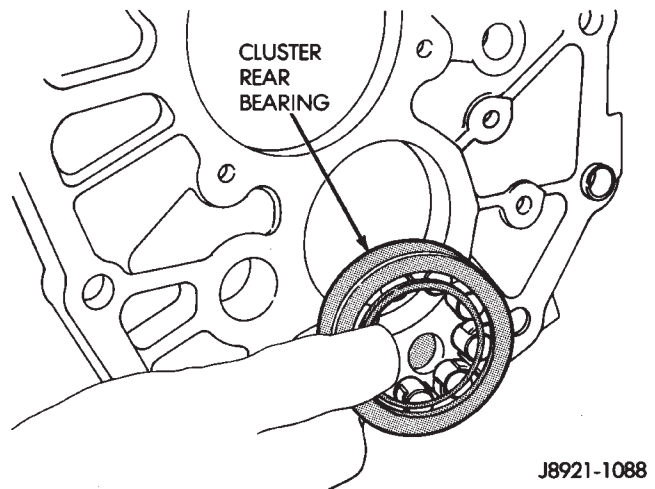

Fig. 58 Removing Cluster Gear Rear Bearing
- (6) Remove cluster gear rear bearing from intermediate plate (Fig. 58).